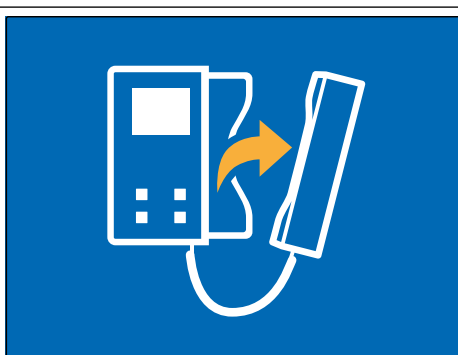
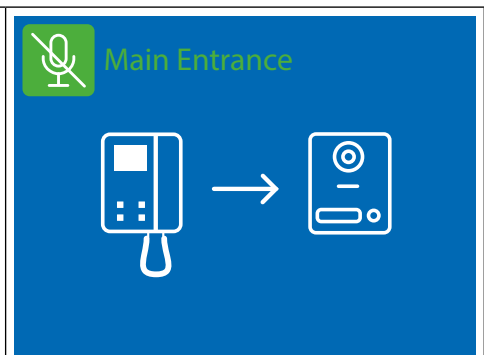

Fig. 38 Pick up the handset warning
Fig. 39 Initialising camera recall
- If the handset is on its cradle, the display shows the warning to pick up the handset (**Fig. 38**) then the camera recall initialising screen (**Fig. 39**).
* If the panel address book includes one door panel only, tapping on the icon launches the call to the door immediately (**Fig. 38 on page 23**).